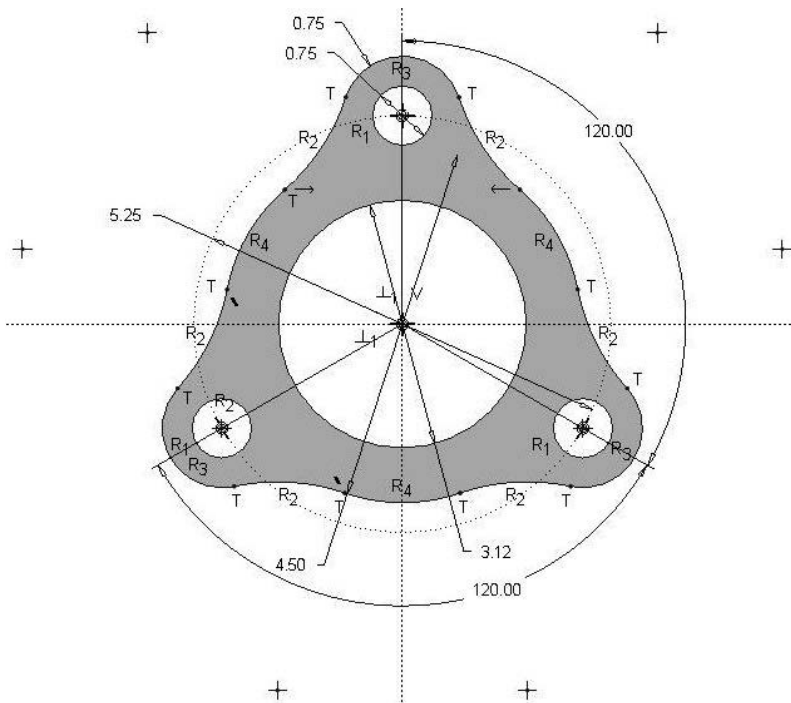

Figure 3-79 Problem 10
- 3.10 Draw the cork gasket (Figure 3-79). **Design Intent**—The three smaller holes need to be on a 5 1/4-inch bolt circle spaced 120° apart. All boundary arcs are tangent to each other. The radius, R2, is equal to the radius of the 5.25 diameter construction circle. (Note R2 near lower left hole on the construction circle and R2 on numerous arcs.)